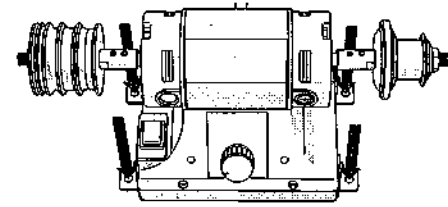

Fig. 2
- Fasten the machine to the work bench, and tighten screws securely (screws not included). Fig. 2